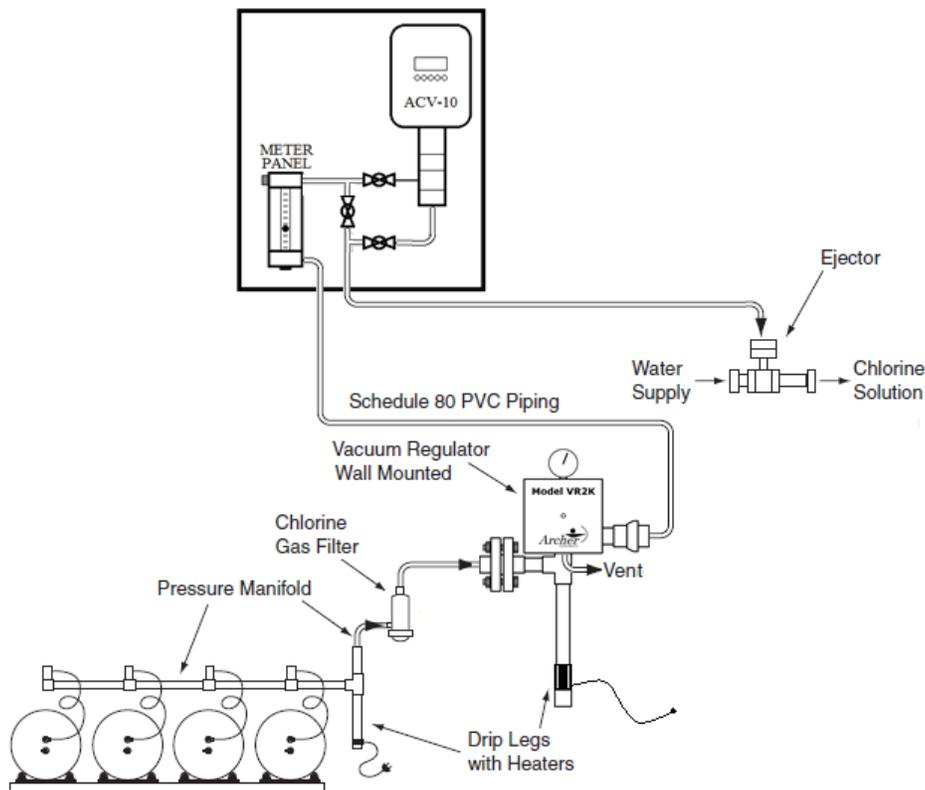

Figure 2
6) Refer to Figure 2 for proper gas feed system configurations.